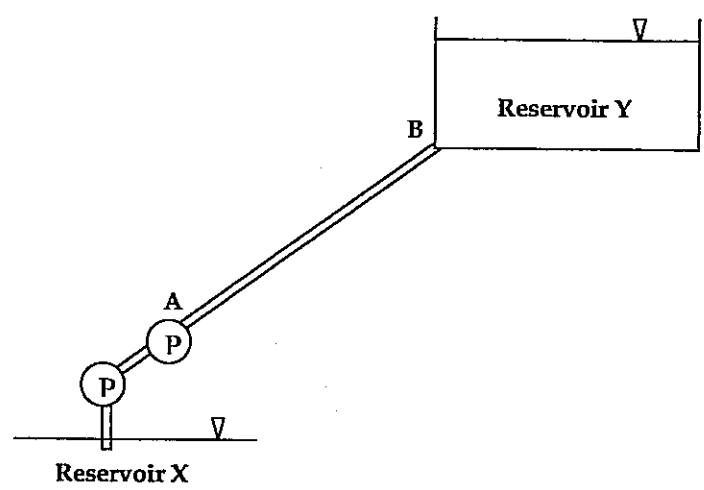

Figure 7
7) Two identical pumps are connected in series to pump water from Reservoir X to Reservoir Y, as shown in Figure 7. The pipeline AB has a length of 500 m, a diameter of 50 mm and a friction factor of 0.01. The elevations of the water levels in Reservoirs X and Y can be assumed to be constant and the difference in water levels is 15 m.